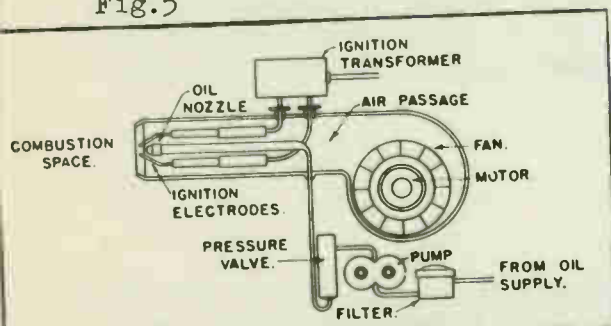

Fig. 7 Principal parts of gun type oil burner.
- (1) High pressure type; often called a gun type burner. See Fig. 7.
- (2) Low pressure type.